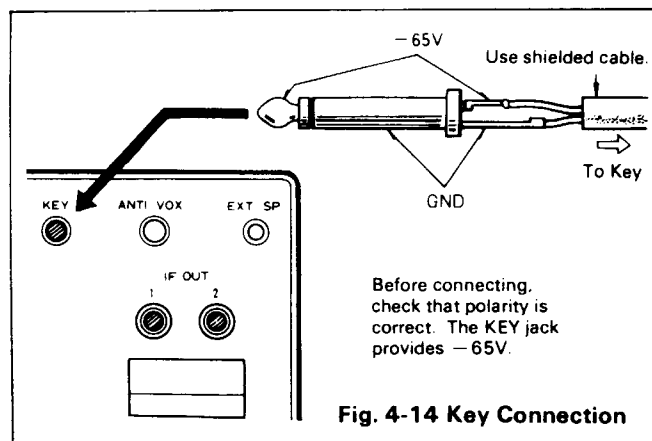

Fig. 4-14 Key Connection
■ KEY CONNECTION (Fig. 4-14)
Your key should be connected as illustrated in Fig. 4-14. When using an electronic keyer, make sure that polarity is correct. Use shielded line from the key to transceiver.